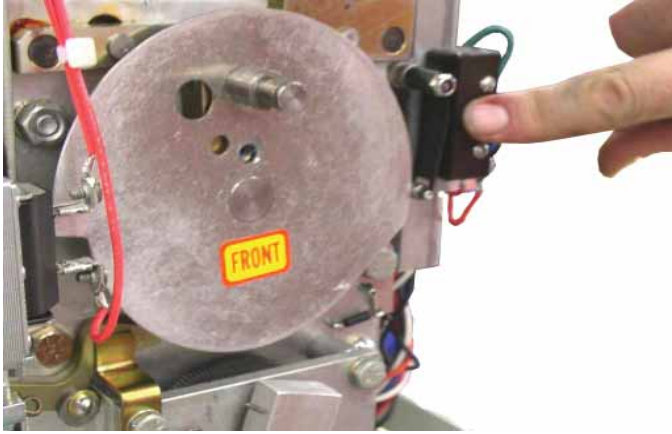

Figure 41.
- q. Place the Quick Close cam on the VR-68 crank lever assembly. Ensure the Quick Close micro-switch “clicks” closed when the cam is installed. Refer to Figure 41. Secure with pan head screw and lockwasher from kit. Apply 1 to 2 drops of Loctite® #242 Blue to screw threads before installing.